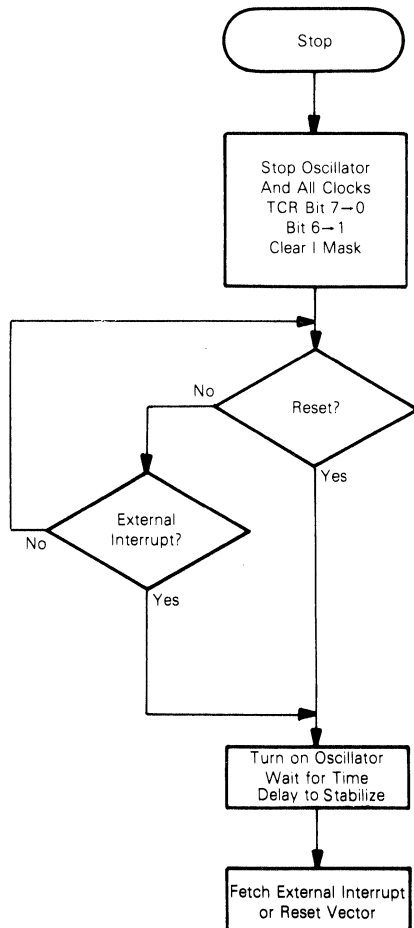

Fig. 17 — Stop function flowchart.
**STOP** — The STOP instruction places the CDP6805E2 in a low power consumption mode. In the STOP function the internal oscillator is turned off, causing all internal processing and the timer to be halted; refer to Figure 17. The DS and AS lines go to a low state and the R/W line goes to a high state. The multiplexed address/data bus goes to the data input state. The high order address lines remain at the address of the next instruction. The MPU remains in the STOP mode until an external interrupt or reset occurs; refer to Figure 8 and 17.